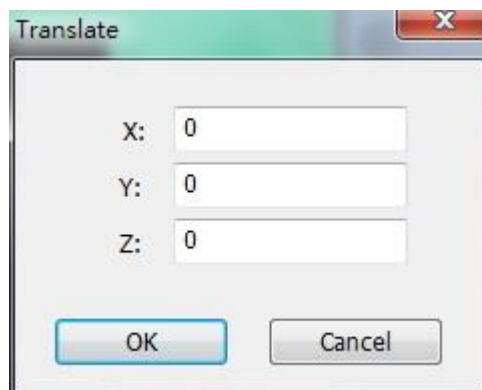

Fig. 8-7
(1)Function: To move the original point of the coordinate by inputting number into the window shown in Fig.8-7
Select “coordinate→translate coordinate” order in the menu, below window (Fig.8-7) will popup. Input the intended number in the window, then click “confirm” button to move the coordinate.
Select “coordinate→translate coordinate” order in the menu, a window (Fig.8-7) will popup. Input the intended number in the window, then click “confirm” button to rotate the coordinate.